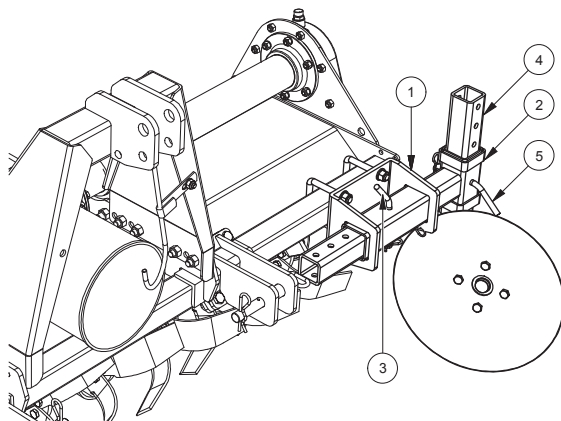

FIG. 17
- Fit the support (1, “Fig. 17”) onto the front bar; secure it near the side of the machine.
- Insert the support arm (2), according to the chosen extension and secure it into position with the pin (3).
- Insert the conveyor disc (4) to the chosen height and secure it into position with the pin (5).